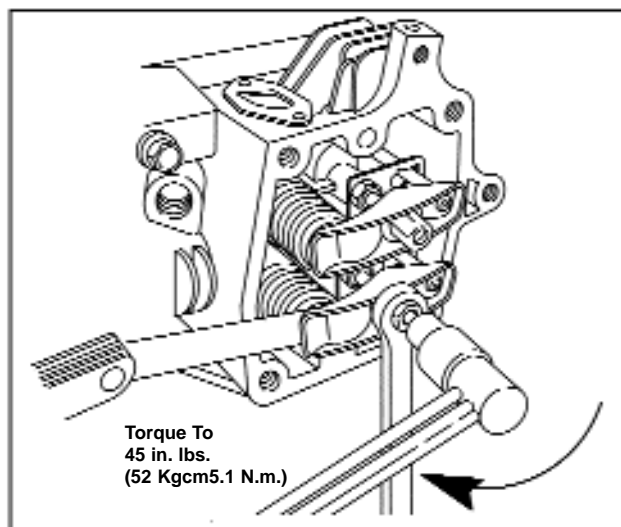

**Figure 98 - Installing Rocker Arm Shaft**
3. Install two (2) screws in rocker arm shaft and cylinder head. Torque screws to 85 in. lbs.(9.6 Nm), Figure 98.